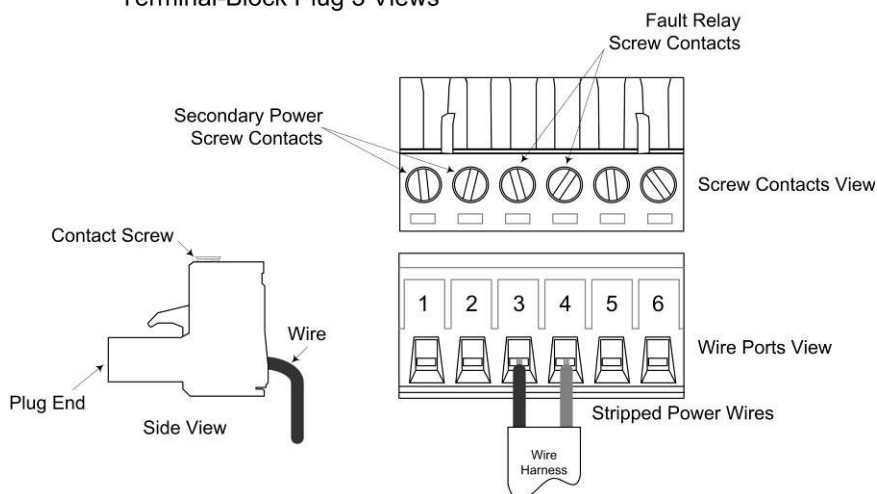

Figure 12: Alarm Relay Wiring
3.	Wire the alarm relay as shown in Figure 12.